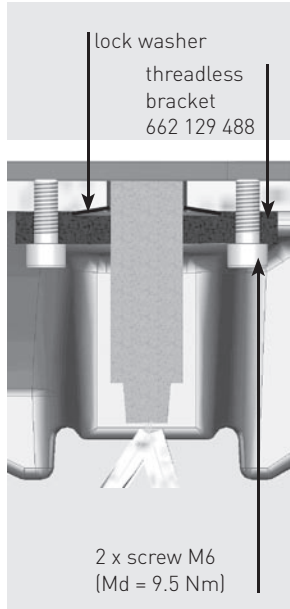

Figure 8.1
4. Bolt sensor ZSZ (blue) to the coupler jaw with the microencapsulated screws enclosed (2x M4 tightening torque: 2.0 Nm). Important: The cable between sensor SH (grey) and sensor ZSZ (blue) must be laid under the bar (along the coupler plate). (See Fig. 8.1).